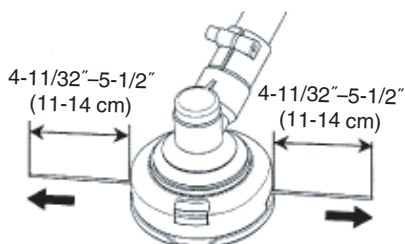

Fig. 34
- (7) The initial cutting line length should be approx. $4\text{-}11/32\text{''}$ – $5\text{-}1/2\text{''}$ (11–14 cm) and should be equal on both sides. (Fig. 34)